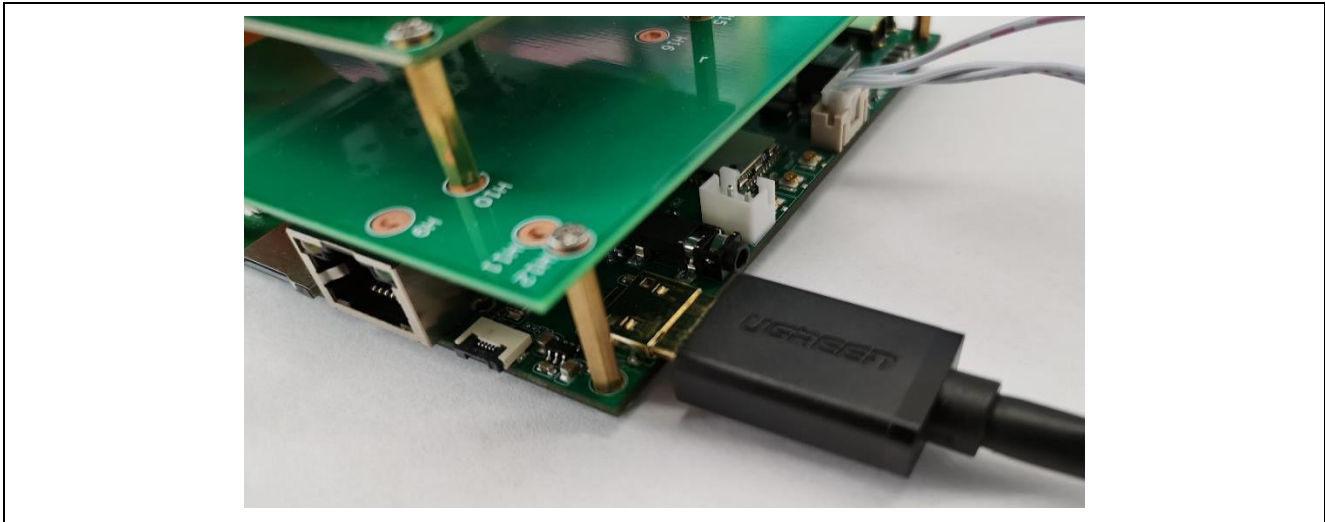

Figure 2.13 HDMI Connection
- 1) Connect ISP board with a display via HDMI cable, as Figure 2.13: